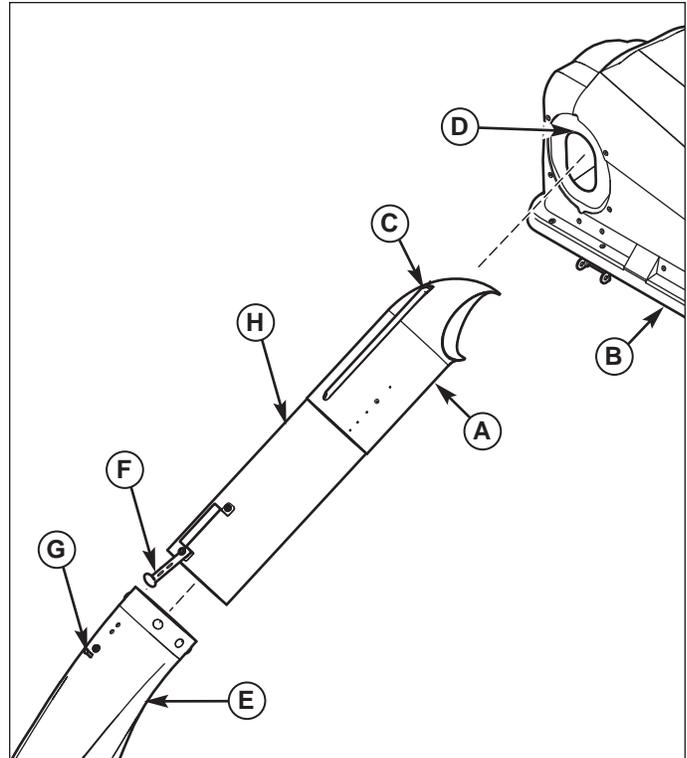

**Figure 9. Install Chute**
1. Install mounting plate (A, Figure 9) to mower deck as shown. Secure with 5/16-18 x 5/8 carriage bolts (C) and 5/16-18 locknuts (B).
2. Lift discharge deflector (F).
3. Insert lower chute rod (D) into mounting plate (A).
4. Pull rubber strap (E) below discharge deflector, and secure by placing hole (H) over locknut (G).